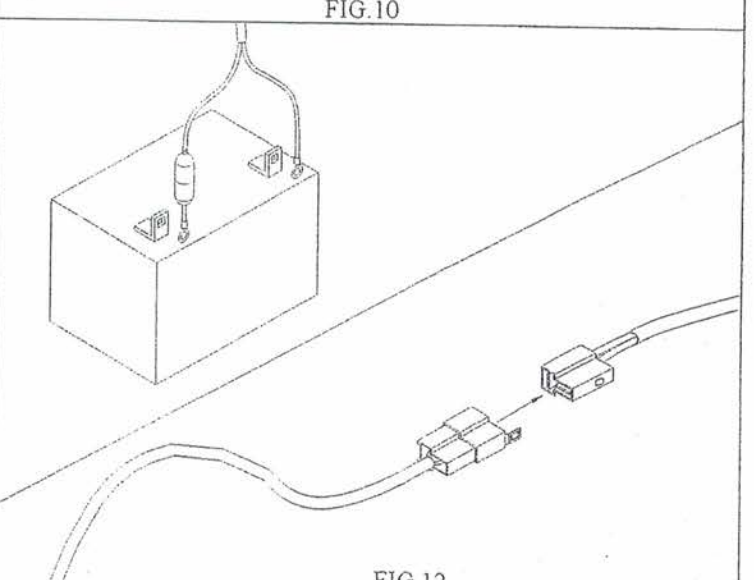

FIG. 12
10. Plug cylinder line into cylinder and attach posts to nuts on battery, black to positive, white to negative. **FIG. 12**